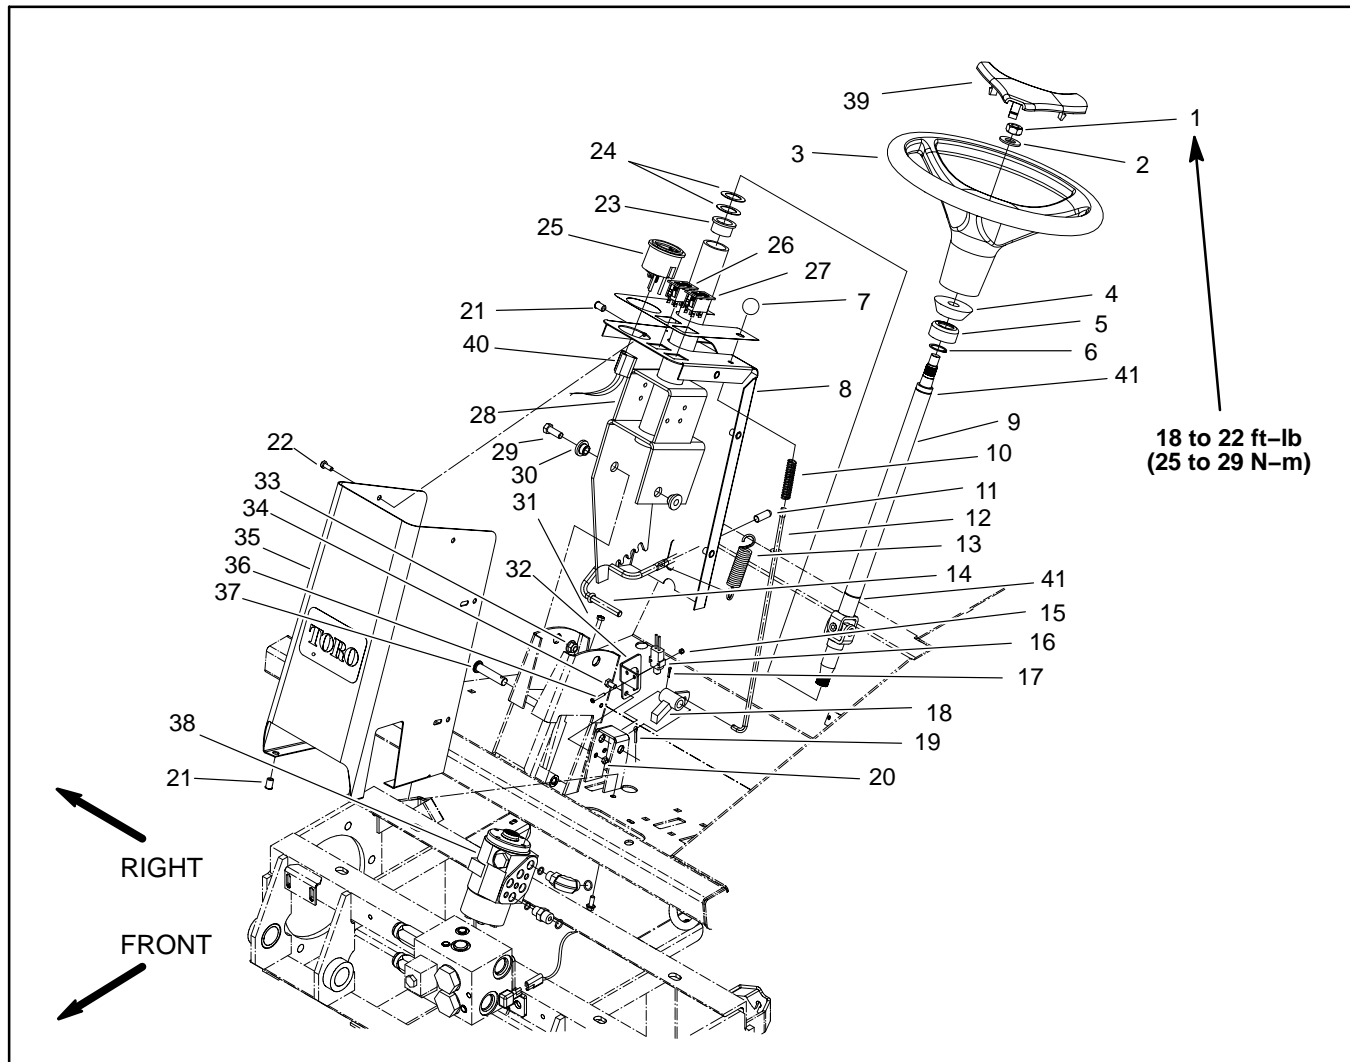

Figure 1
2. Disassemble steering tower as needed using Figure 1 as a guide.
1. Assemble steering tower using Figure 1 as a guide.
**Note:** Thrust washer(s) (24) on steering column are used as needed to remove end play of steering shaft.